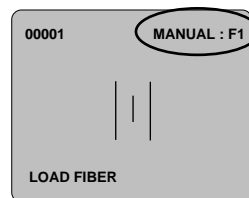

Figure 29
5.3 Check the LCD to ensure that the Manual fusion program is selected (Figure 29). *If the set is not in the manual mode, see step 3.11.*